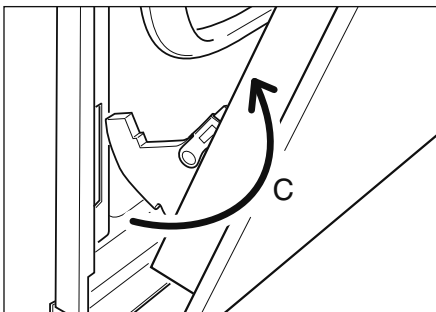

Fig.39e
- Withdraw the hinge hooks from their location following arrow "C" (Fig. 39e).